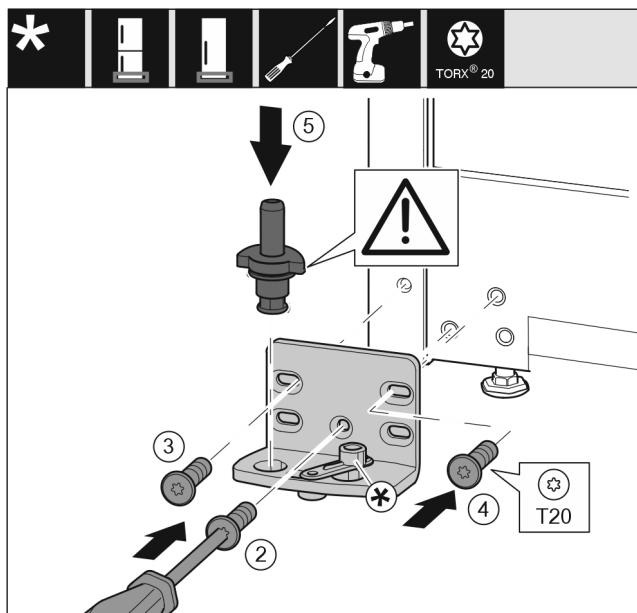

Fig. 16
- ▶ Place the bearing bracket on the other side and screw it in using the T20 screwdriver. Start with screw 2 at the bottom in the middle. *Fig. 16 (2)*
- ▶ Screw in screws 3 and 4. *Fig. 16 (3,4)*
- ▶ Insert the bearing pin completely. Make sure that the latching lug is pointing to the rear. *Fig. 16 (5)*